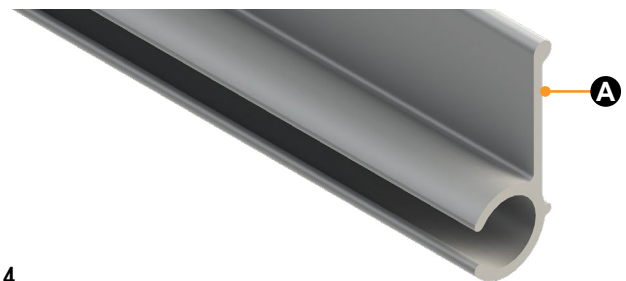
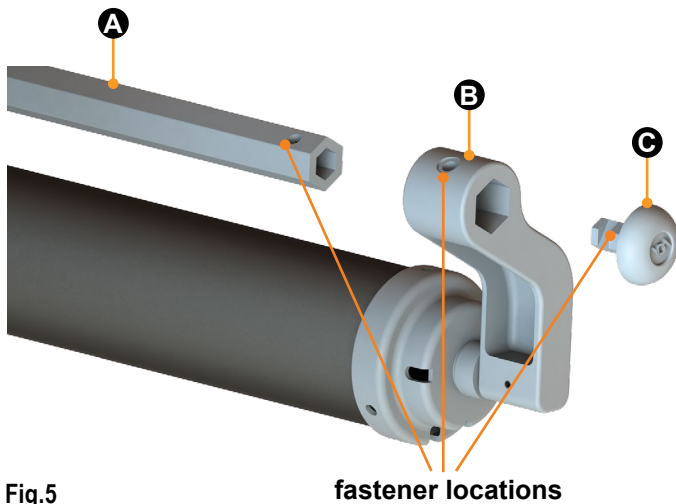

Fig.4
Fig.5
1. Slide the extension rod (Fig.4A) into the spring head assembly torsion arm (Fig.4B), aligning the fastener locations (Fig.4).
2. Slide the spring head assembly torsion arm end cap (Fig.4C) into the extension rod (Fig.4A), aligning all three fastener locations (Fig.4). Fasten using the provided $\frac{1}{4}$ " - 20 x $\frac{5}{8}$ " slotted pan head, self-tapping screw (Fig.5).